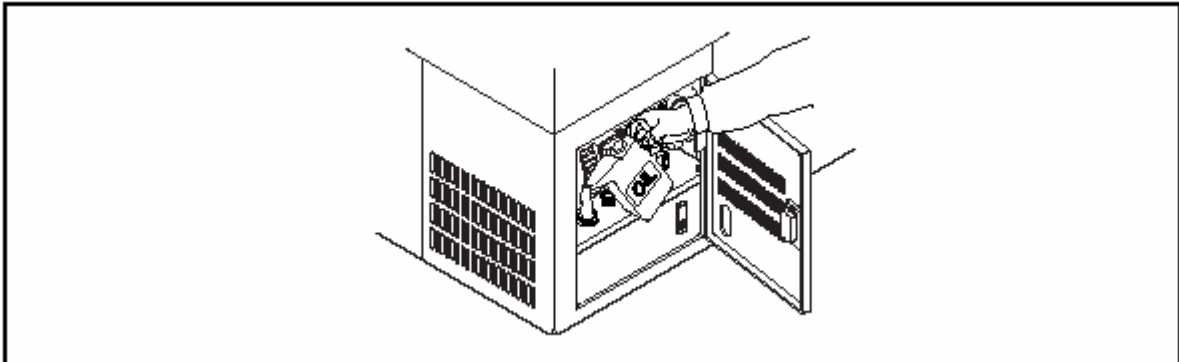

Fig. 4-7 Filling Hydraulic Oil
- (1) Perform oiling at the positions as shown in Figs. 4-7, 4-8 and 4-9.
- (2) Table 4-1 shows the recommended lubrication and oiling.